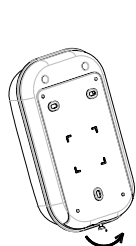

FIGURE 1
- Undo and remove the fixing screws from the bottom edge of the Indoor Siren and remove the rear cover (FIGURE 1 & 2).